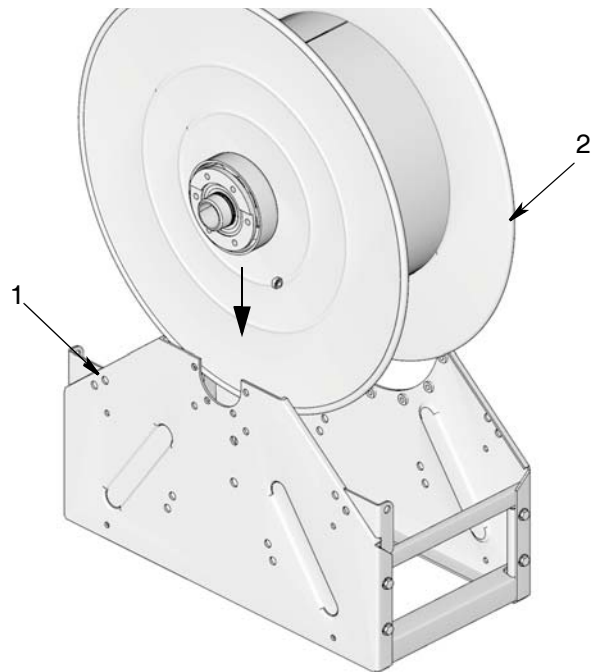

FIG. 38
- 5. **Install spool (2) on reel frame (1) (FIG. 38).**